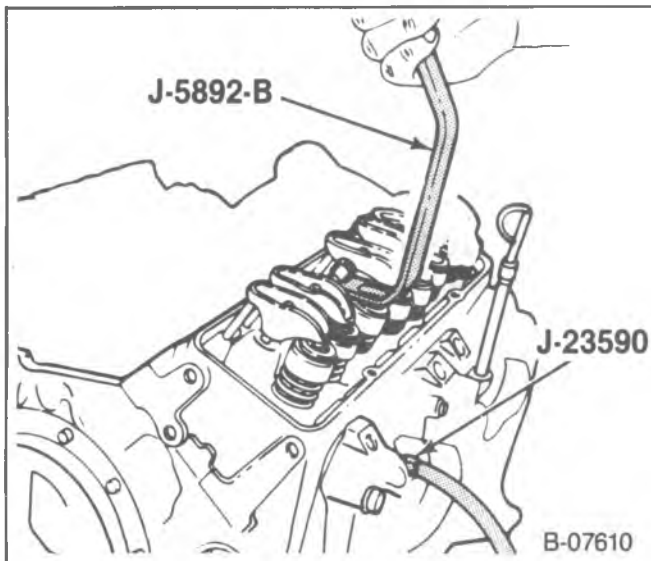

Figure 6—Compressing the Valve Springs
4. Valve keepers (20).
- Install a rocker arm nut (figure 6).
- Use J-5892-B to compress the valve spring (figure 6).
5. Cap (21) and/or rotor (28), shield (22) and spring (26) with damper (25).
6. O-ring seal (23), and seal (24) (intake valve only).
1. New seal (24) (intake valve only). Install the seal over the intake valve stem and seat it against the head.
2. Spring (26) with damper (25), shield (22) and cap (21) and/or rotor (28).
3. New O-ring seal (23) and valve keepers (20).
- With air pressure applied to the cylinder with J-23590, compress the spring with J-5892-B (figure 6).